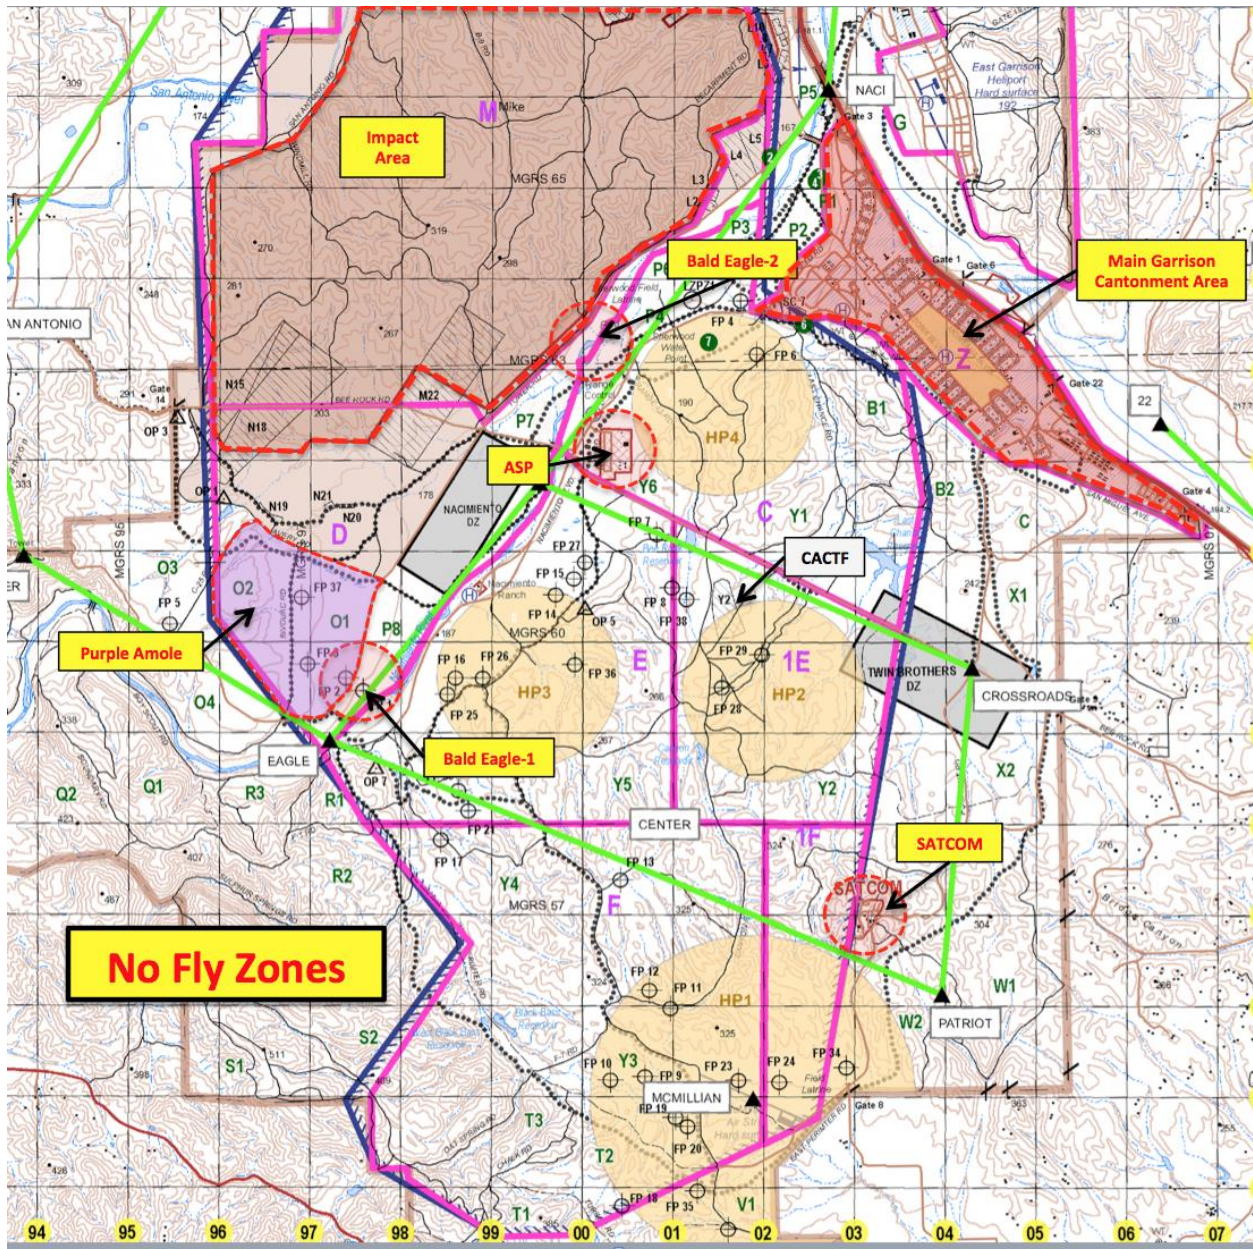

Figure 3: Camp Roberts Restricted Operating Zones (A-F, M, Z), No Fly Zones, and Holding Points within the R-2504
D. Restricted Operating Zones (ROZ). The Camp Roberts restricted airspace (RAS), R-2504 is divided into restricted operating zones (ROZ) to aid in deconfliction of airborne assets. UAS operators will have the R-2504 boundary and each zone boundary that they intend to operate loaded in their GCS prior to flight. Note: Camp Roberts Installation boundaries are NOT the same as R-2504 airspace boundaries. Camp Roberts requires a 300 foot safety buffer be maintained inside of the R-2504 boundary to ensure unmanned aircraft remain within the restricted airspace. In addition, a separate flight zone has been established for Scan Eagle based upon a Hazard Pattern Analysis (see also par. F and Fig 3).
F. NO-FLY ZONES: Various areas of Camp Roberts are off-limits to UA. These “off-limit” areas are identified as “No-fly Zones”. See Fig. 3 and 1-6 below.
(1) SATCOM No-Fly Zone. Altitude SFC – 15,000’ MSL